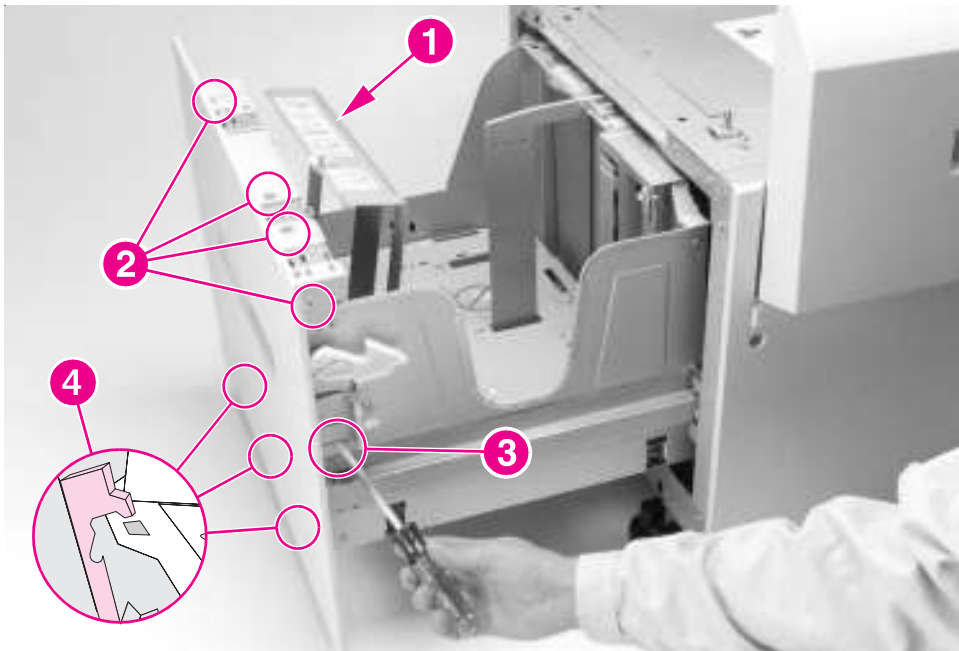

Figure 6-62 2000-sheet Input Tray Front Cover
- 1 Open the paper tray on the 2000-sheet Input Tray to the stops (figure 6-62).